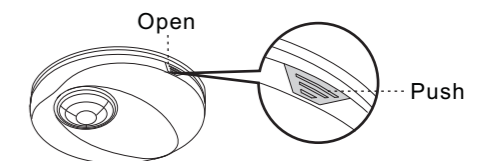

FIG.8
- 3.3.1 Push the point-to-point of outer cover gently and take it off with applicable force (See FIG.8).